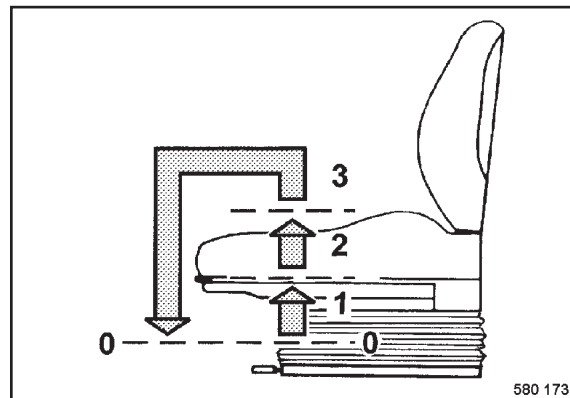

Fig. 59
- To adjust the height of the seat lift the seat up (Fig. 59) until it engages at the desired level.